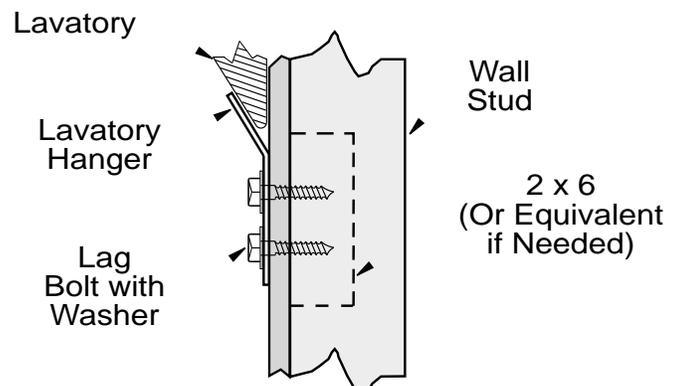

Figure 3
- 4 Remove the lavatory and pedestal. Position the hanger, aligned with the marked location on the wall, and securely fasten it to the wall. A minimum of four 8 x 1-1/2" wood or lag screws should be used to attach the hanger to the wall. (See Figure 3)